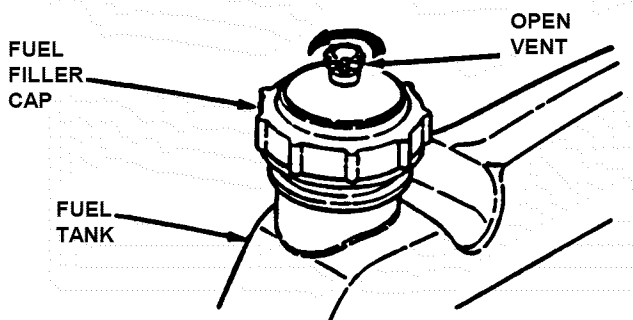

FIGURE 2.2
2.1.7. Add fuel to tank after pushing the Rear Engine Rider outside where fumes can dissipate. Make sure fuel filler cap is tight and vent is open after refueling. Refer to engine owner's manual for fuel specifications. See Figure 2.2.